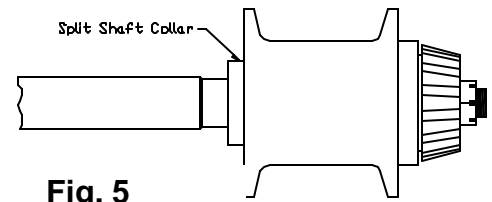

Fig. 5
11) Draw the pinion gear into final position by tightening the nut and torque the nut to 70 foot-pounds. Make certain that the gear has bottomed on the taper and the key has bottomed in the gear keyway. See Fig. 5